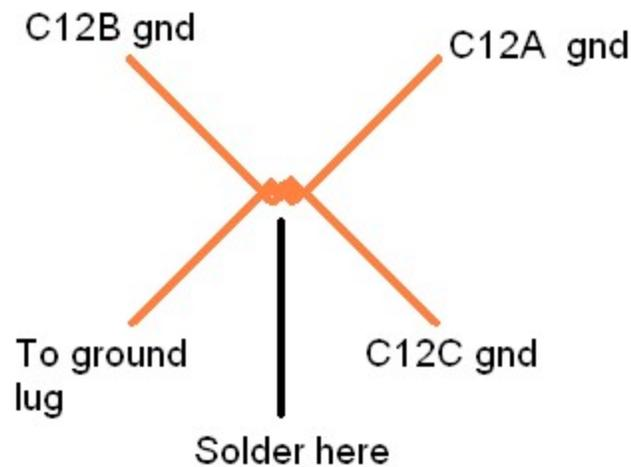

Figure 15-Ground Harness Configuration
- c. Twist and shape the wires as shown in Figure 15.